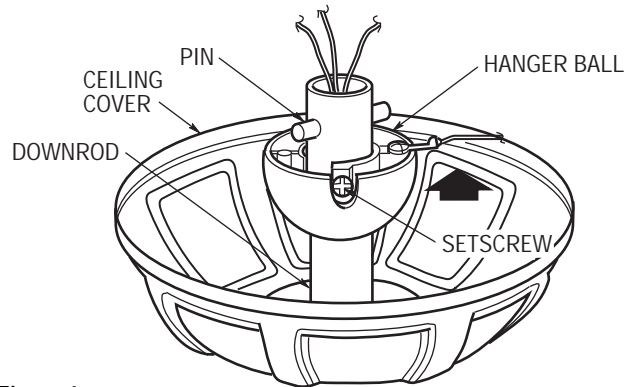

Figure 4
7. Position the ceiling cover over the downrod. Be sure the cover is oriented correctly, with the large opening at the top (Figure 4).
8. Reinstall the hanger ball on the downrod (Figure 4) as follows. Route the motor leads through the hanger ball and slide the hanger ball over the downrod. Install the pin through the holes at the top of the downrod and slide the hanger ball up the downrod, aligning the ball so the pin is captured in the groove in the top of the hanger ball. Pull the hanger ball up tight against the pin and securely tighten the setscrew in the hanger ball. A loose setscrew could create fan wobble.